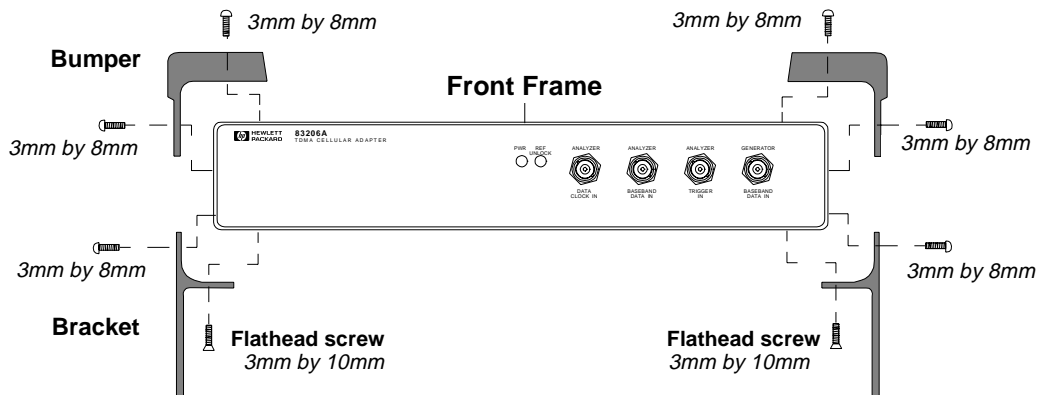

Figure 19 Removing the Bumpers and Brackets
2. Remove the 2 bumpers and 2 brackets from the front frame as shown in figure 19.